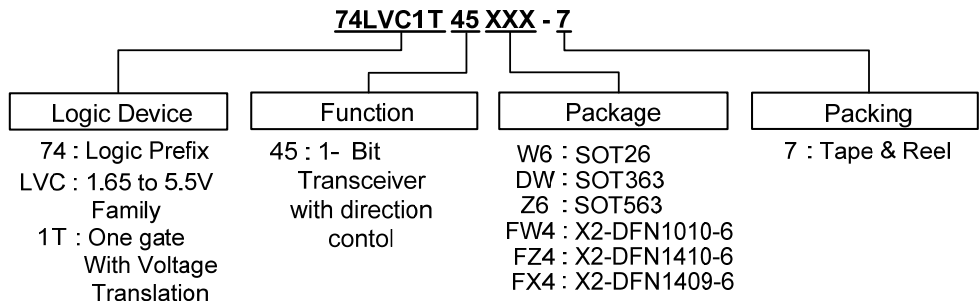

**Figure 1 Load Circuit and Voltage Waveforms**
**Switching Characteristics** ( $V_{CC} (A) = 1.8V \pm 0.15V$ ,  $T_A = -40^{\circ}C$  to  $+85^{\circ}C$ , see Figure 1)
**Switching Characteristics** (cont.) ( $V_{CC} (A) = 2.5V \pm 0.2V$ ,  $T_A = -40^{\circ}C$  to  $+85^{\circ}C$ , see Figure 1)
**Switching Characteristics** (cont.) ( $V_{CC}(A) = 3.3V \pm 0.3V$ ,  $T_A = -40^\circ C$  to  $+85^\circ C$ , see Figure 1)
**Switching Characteristics** (cont.) ( $V_{CC}(A) = 5V \pm 0.5V$ ,  $T_A = -40^\circ C$  to  $+85^\circ C$ , see Figure 1)